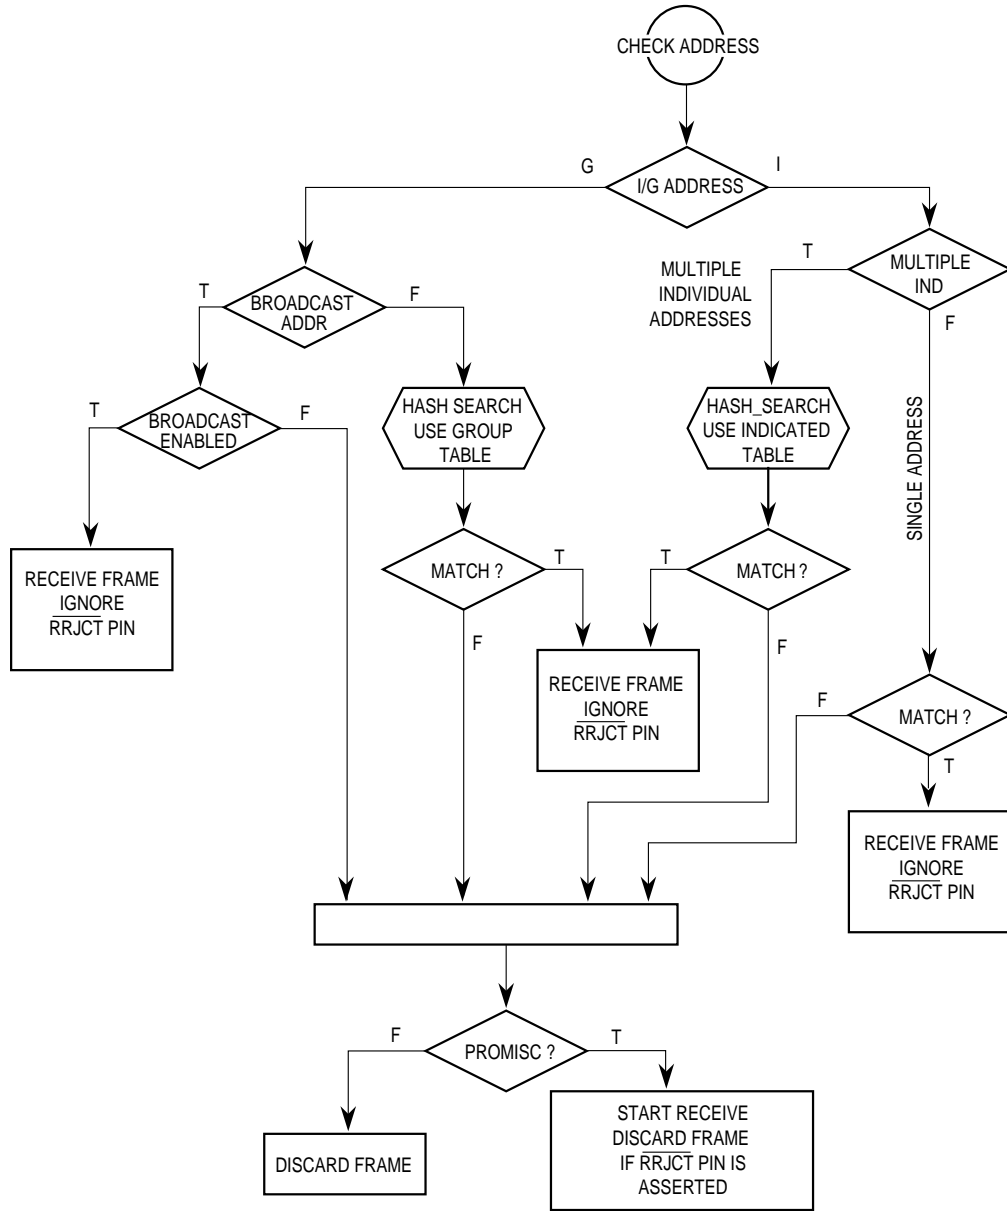

Figure 16-108. Ethernet Address Recognition Flowchart
**16.9.22.10 SCCx ETHERNET ADDRESS RECOGNITION.** The SCCx Ethernet controller can filter the received frames based on different addressing types—physical (individual), group (multicast), broadcast (all-ones group address), and promiscuous. You can set the promiscuous address type in the PSMR—SCC Ethernet register. The difference between an individual address and a group address is determined by the I/G bit in the destination address field, which is part of the standard Ethernet protocol. A flowchart for address recognition on received frames is illustrated in Figure 16-108.